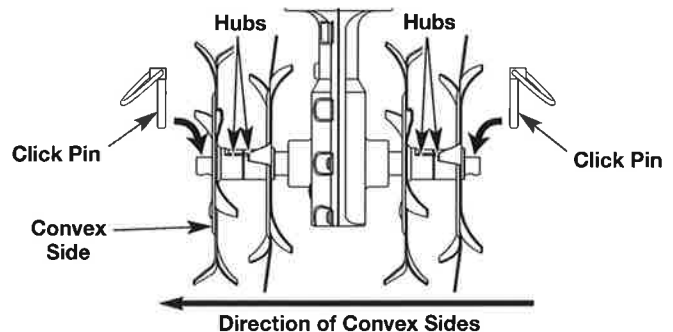

Fig. 10
3. Remove the click pins from each end of the tine shaft (Fig. 10). Slide the tines off of the shaft.
5. Slide on the new tines with the hubs facing in towards each other (Fig. 10).
NOTE: Each tine has a convex side. Make sure that all of the convex sides are facing as shown in Figure 10.
6. Secure the new tines to the shaft with click pins (Fig. 10).